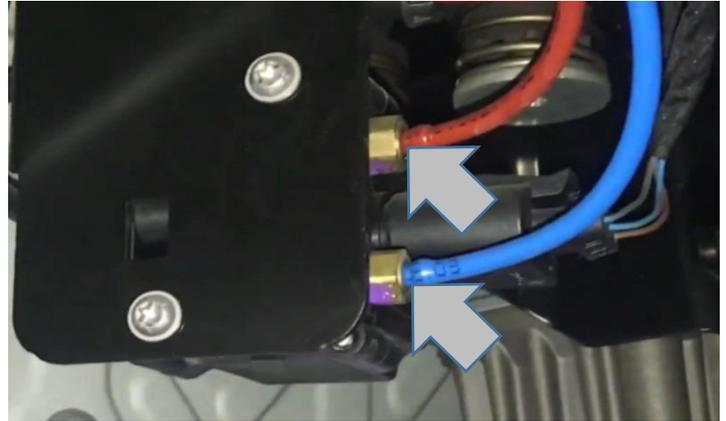

fig.2
5. Locate the valve block next to the compressor. (fig.2) It has 2 air lines, one red colour (normally supplies the left side) and one blue colour (normally supplies the right side). Once located, slowly remove the air fitting to release the air spring pressure, only removing the air line once fully vented.